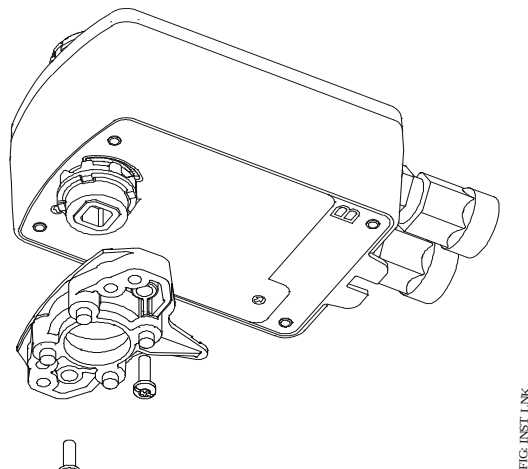

Figure 7: Installing the Linkage
5. Install linkage base on Side B using the two #8-32 x 0.625 in. long screws (Figure 7). The recommended torque is 29 to 33 lb·in. (3.3 to 3.7 N·m).